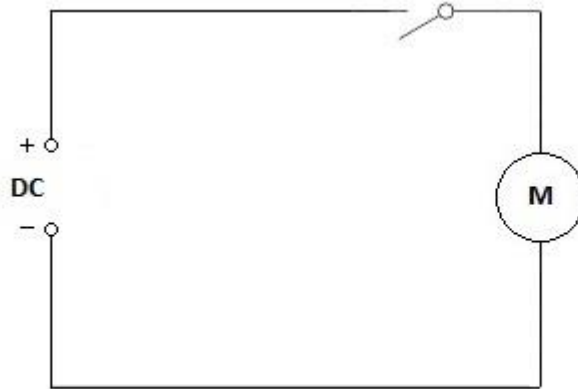

Figure 72
2. This generator can be modelled as an ideal power source in series with a resistor. As shown below in Figure 72. It can be helpful to keep this model in mind when testing and fault-finding.